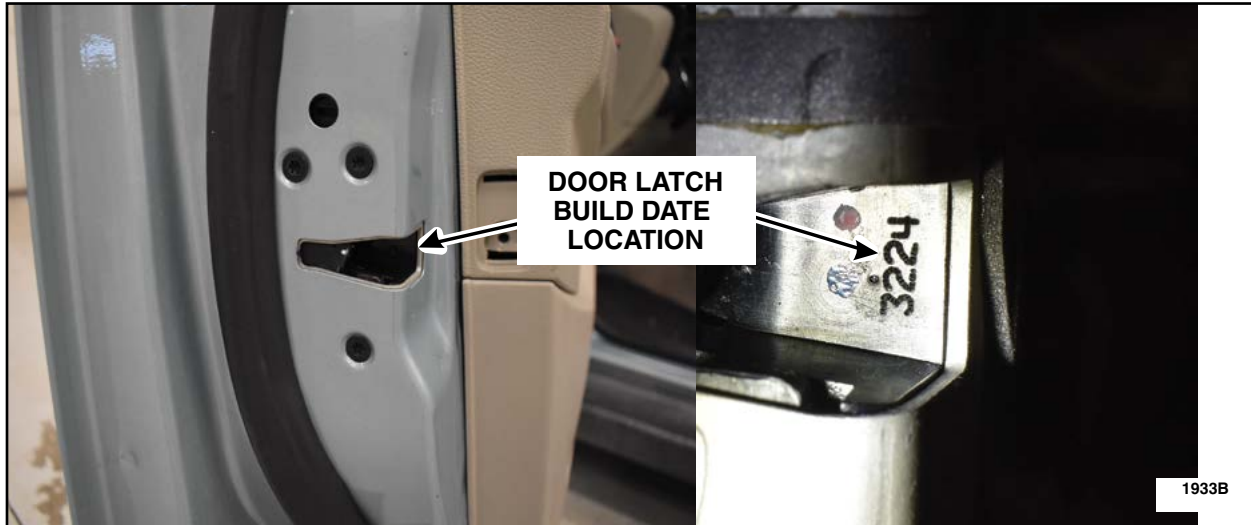

FIGURE 16
11. Once the **new** latches have been installed in the vehicle, record both date codes of the new latches. Additionally, capture a picture of the date code of each new door latch (two pictures total) showing them installed in the vehicle. These pictures will need to be submitted on the SSSC web questionnaire. See Figure 16.